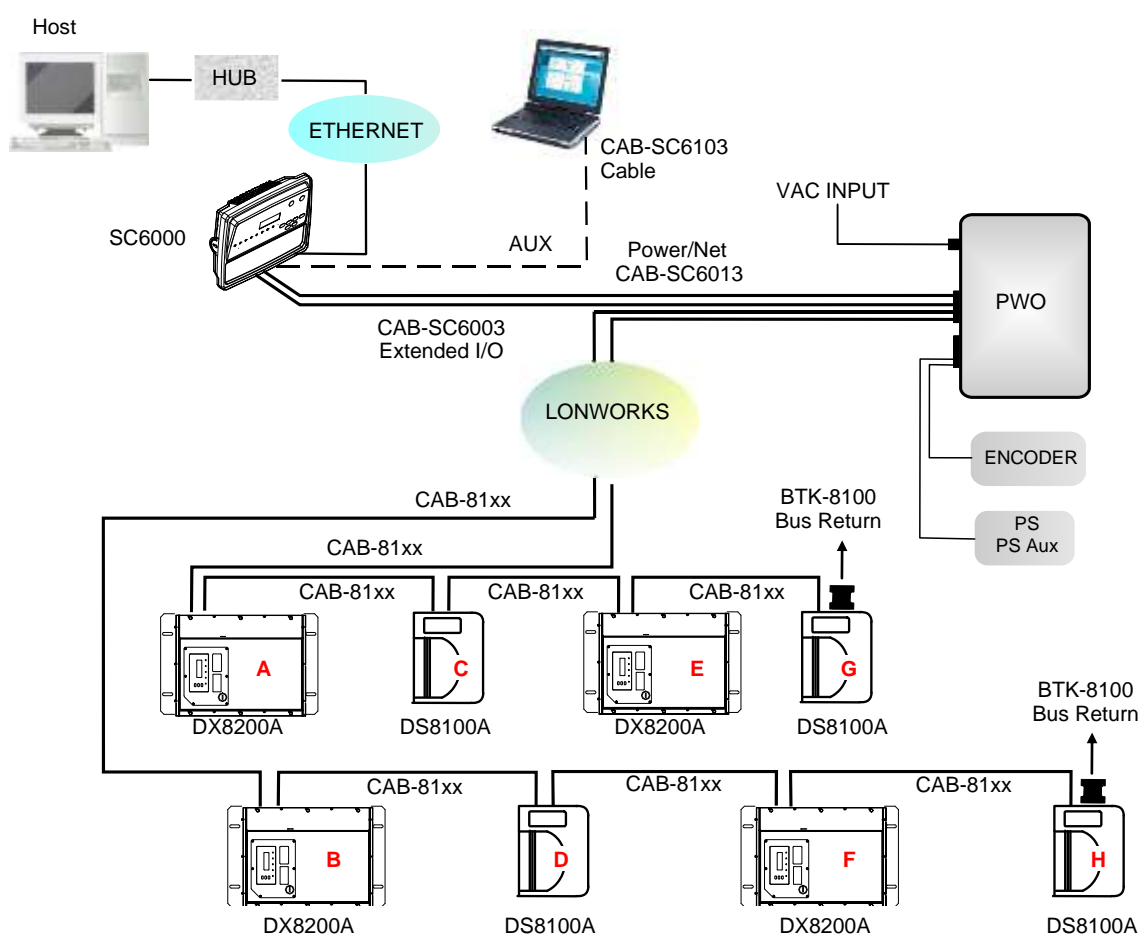

Figure 75 – Large Synchronized Network with DX8200A and DS8100A Scanners
1. Scanner distribution should alternate between odd and even branches so that the station guarantees 50% reading on all sides. See also Figure 75.